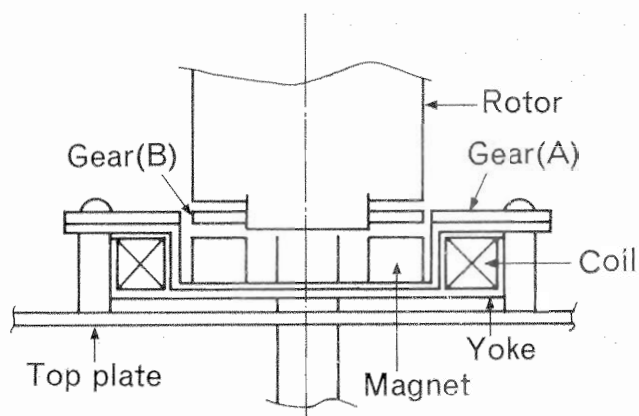

Fig. 25
A detection system which uses the coil to detect variations of magnetic resistance due to combinations of gears is employed for speed detection. That is, magnetic force generated by the magnet shown in Fig. 25 flows to gear (B) fixed to the rotor, gear (A) fixed to top plate and yoke in sequence. Magnetic resistance is generated at that time due to the gap between gear (A) and gear (B).